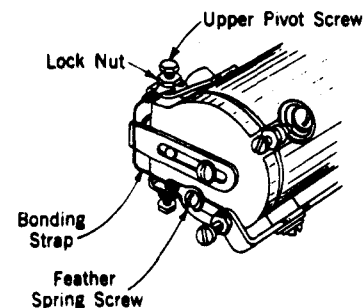

Fig. 1 - Flexible Bonding Strap in Place on Nos. 114, 124, 126, 174 and 198 Type Relays With Feather Springs.
- 3.01 For the purpose of this description, the relays are considered as being mounted with the pivot screws at the left, as shown in Figs. 1 and 2. There are cases, however, where the relays are mounted so that the pivot screws are at the top, to the right, or at the bottom.
- 3.04 Dress the wire of the bonding strap across the face of the armature so that it will take the approximate position of that shown in Fig. 1.